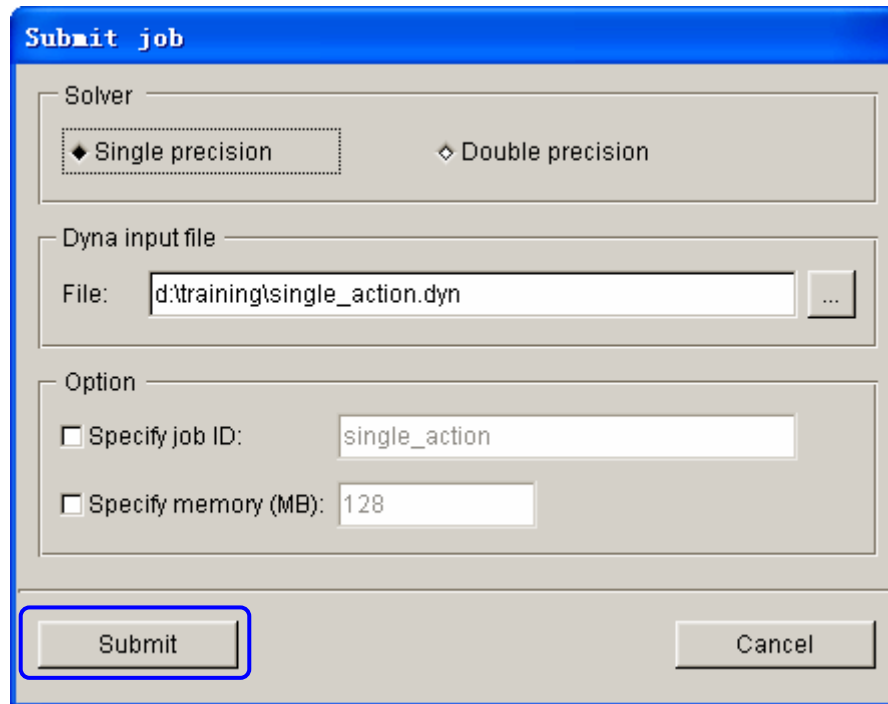

Figure 1.40 Submit job dialog box
2. The SUBMIT JOB dialog box illustrated in Figure 1.40 is displayed.